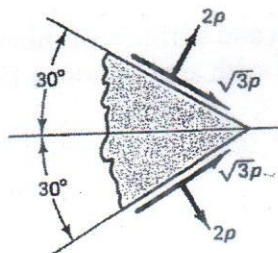

Fig. 7
4. (a) The magnitudes and sense of the stresses at a point are as shown in Fig. 7. (10) Determine the stresses acting on the vertical and horizontal planes.